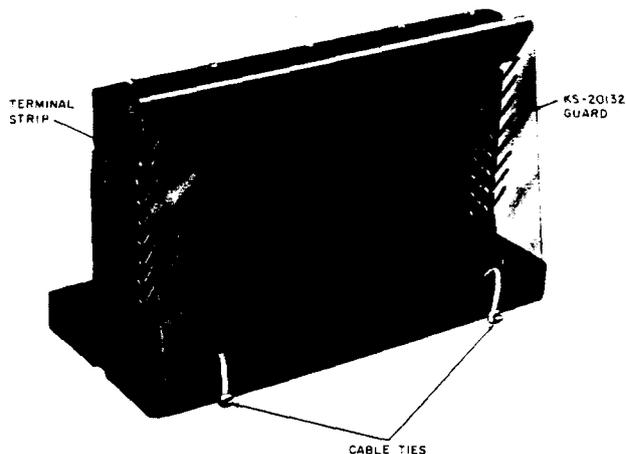

Figure 71—KS-20132 Terminal Guard
8.05 The KS-20132 guard (Figure 71) is a flame-resistant, rectangular transparent plastic sheet. The guard is mounted by molded flanges that clamp the guard clips onto the lip of the terminal strip barrier guard and is secured to the base with two furnished plastic cable ties (see Table AB).